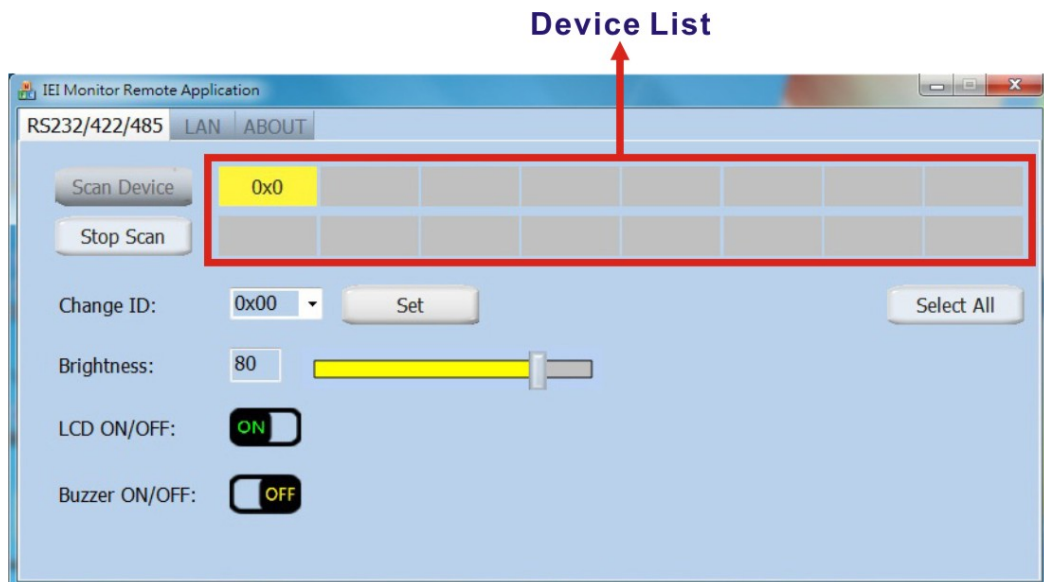

Figure 5-2: IEI Monitor Remote AP – RS-232
Step 2: Click the **RS232/422/485** tab. The ID of the connected marine monitor should be displayed on the device list (**Figure 5-2**). If the device ID is not being displayed, click **Scan Device** to detect the connected marine monitor again.